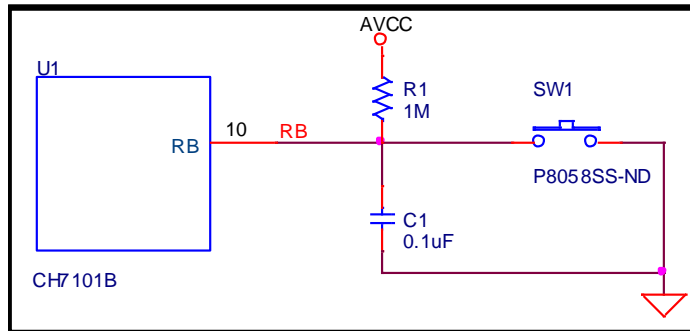

Figure 3: RB pin connection
This pin is the chip reset pin for CH7106B, which is internally pulled-up, places the device in the power on reset condition when this pin is low. A power-reset switch can be placed on the RB pin on the PCB as a hardware reset for CH7106B as shown in **Figure 3**. When the pin is high, the reset function can also be controlled through the serial port.
1. The RB signal can be generated by on board Resistor and Capacitor delay, which can be refer to **Figure 3**. For hardware circuit, please refer to **2.3 RB**.